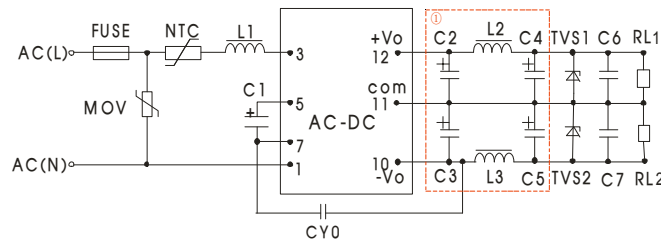

Fig. 1: Typical circuit diagram
- 2.It is necessary to add pi-type filter circuit to the output,such as the typical application of Figure 1;